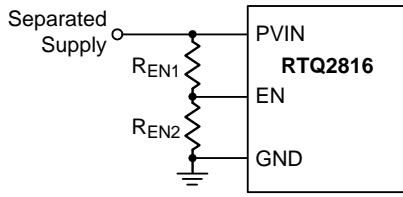
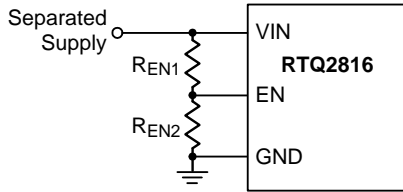
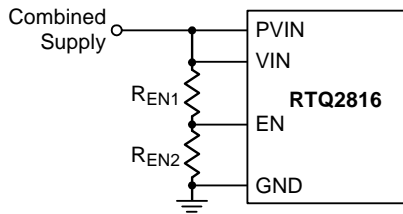

Figure 4. Resistor Divider for PVIN UVLO Setting
Figure 5. Resistor Divider for VIN UVLO Setting,
Figure 6. Resistor Divider for PVIN and VIN UVLO Setting
The EN pin can also be applied to adjust its under-voltage lockout (UVLO) threshold with two external resistors divider from the both input VIN and PVIN pins used together or separately, and the application structures can refer to Figure 4, Figure 5, and Figure 6.
Under above application structures, the adjustable UVLO function of EN pin allows to achieve a secondary UVLO on PVIN pin, a higher UVLO on VIN pin or even a common UVLO on both VIN and PVIN pins. For example, if the EN pin is configured as Figure 5 and the output voltage is set to a higher value 10V. The device may shut down after soft-start sequence is over, and the reason for the result is that the VOUT is still lower than its set target during the VIN rising period even though VIN has already risen to its internal UVLO threshold 4V. To prevent this situation, an adjustable UVLO threshold from EN pin is useful to avoid such high output transfer condition. The exact UVLO thresholds can be calculated by Equation (3). The setting VOUT is 10V and VIN is from 0V to 18V. When VIN is higher than 12V, the device is triggered to enable the converter. Assume REN1 = 56kΩ. Then,